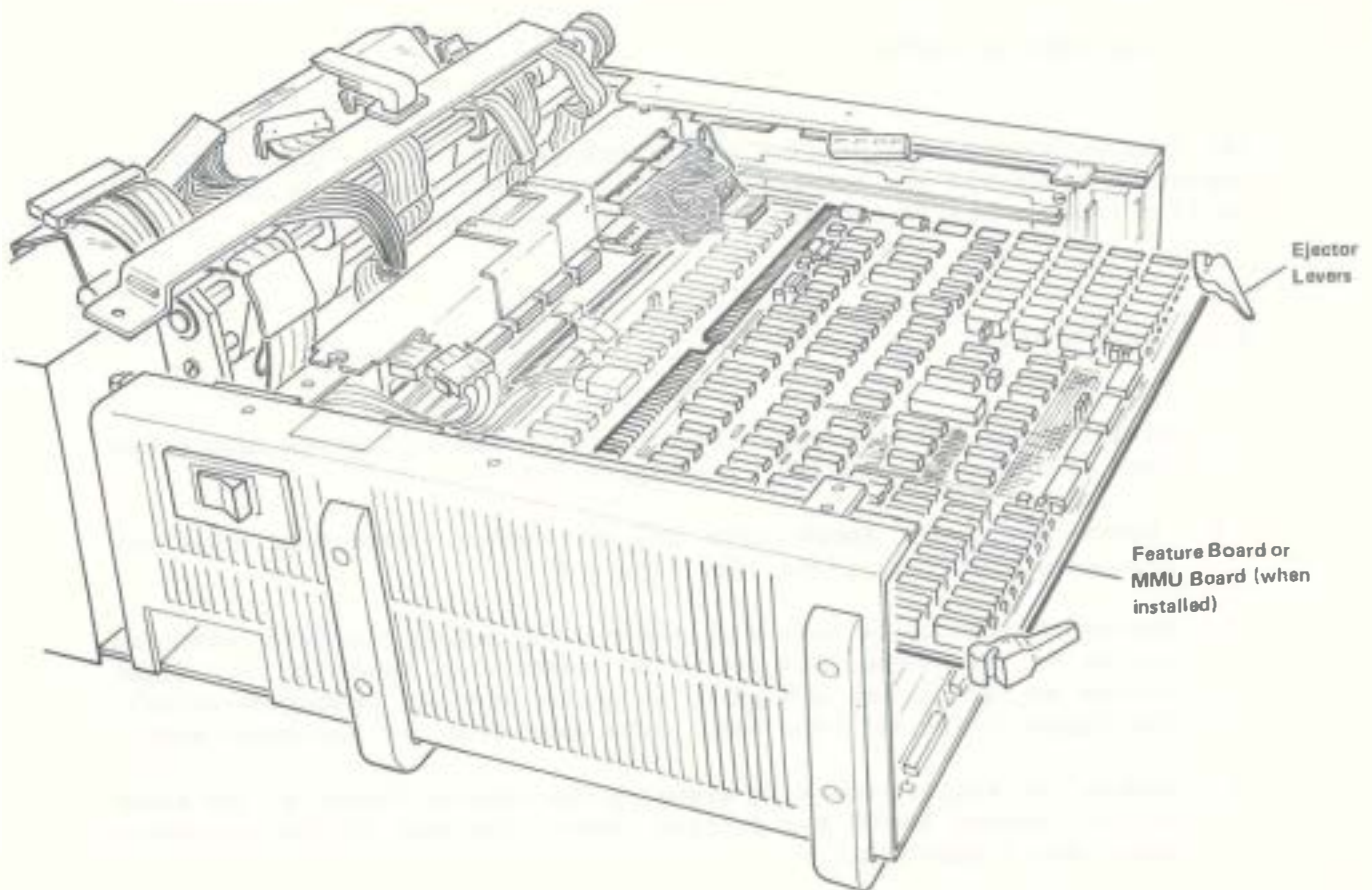

Figure 5-8. Feature Board
4. Remove the feature board by grasping the ejector levers at the sides of the feature board and pulling toward the rear of the processor unit. See Figure 5-8.
1. Slide the feature board into a slot above the planar board until the feature board's ejector levers hook onto the sides of the processor unit frame. See Figure 5-8.
2. Remove the MMU by grasping the ejector lever at each side of the board and pulling toward the rear of the processor. See Figure 5-8.
3. Remove all feature boards by grasping the ejector levers at the sides of each one and pulling toward the rear of the processor unit. See Figure 5-8.